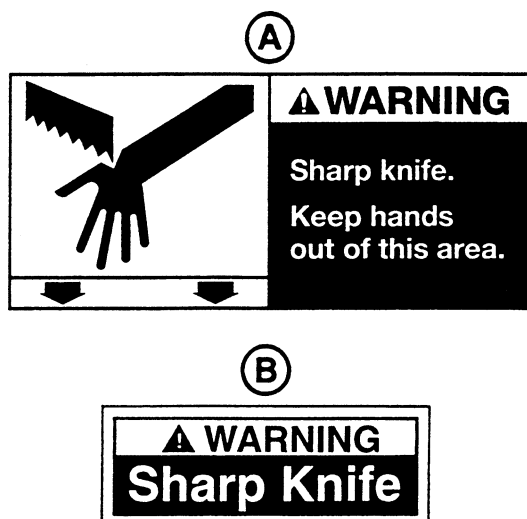

Figure 1-1 – Knife Warning Label
The "**Warning – Sharp Knife**" label (A), shown in **Figure 1-1**, is attached to both sides of the upper frame at the location of the cut-off knife on the upper taping heads. The "**Warning – Sharp Knife**" label (B), shown in **Figure 1-1**, is attached to the orange cut-off knife guard on both taping heads. The labels warn operators and service personnel of the very sharp knife used to cut the tape at the end of the tape application.